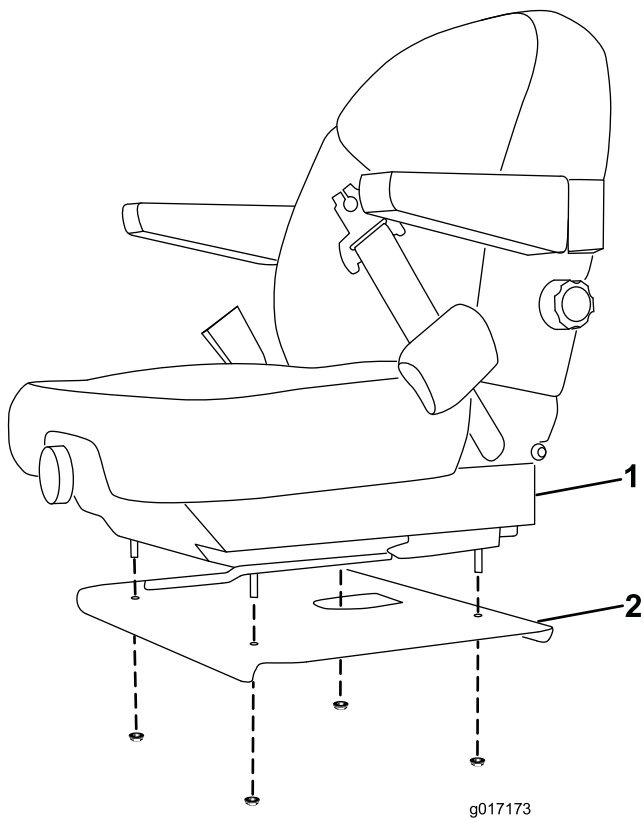

Figure 3
7. Remove the fasteners securing the seat to the seat base (Figure 3). Remove the seat.